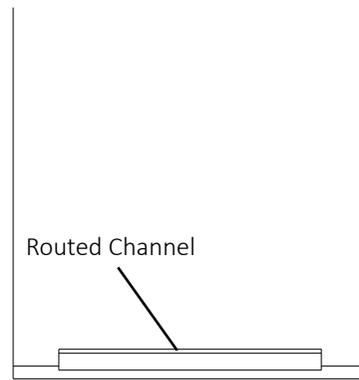

Fig. 1
1. Rout a channel at the bottom of the overlay panel to the proper dimensions. See "(C) Routed Area" in the specification diagram and Fig. 1.